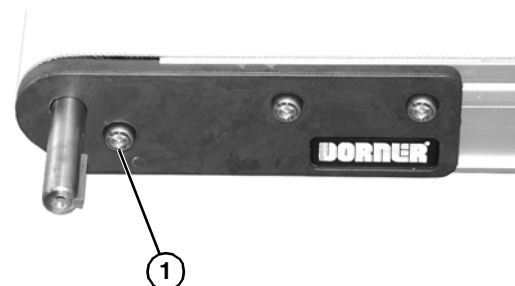

Figure 17
5. Install M6x8 socket head screw (**Figure 17, item 1**) and washer.